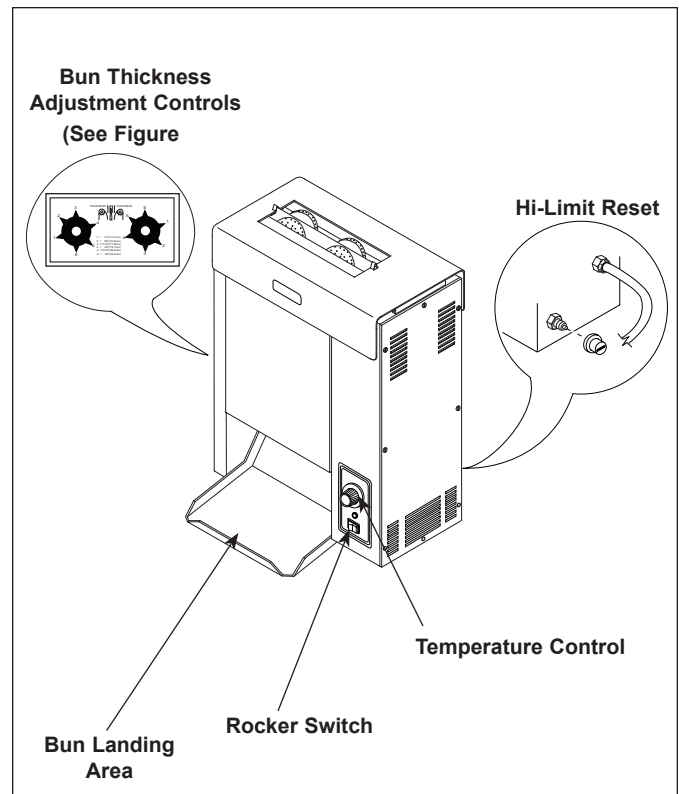

Figure 5. Toaster Controls
2. Turn the Rocker Switch (power On/Off) to ON (Figure 5).
4. Drop buns into toaster with the cut sides of heel and crown facing each other (Figure 5).
5. Toasted product will drop into the Bun Landing Area (Figure 5).
A hi-limit thermostat will turn off electrical power to the heater and control circuits if the unit overheats. To reset this thermostat, allow sufficient time (10-15 minutes) for the unit to cool down, then press and release reset button located at the rear of the unit (Figure 5).